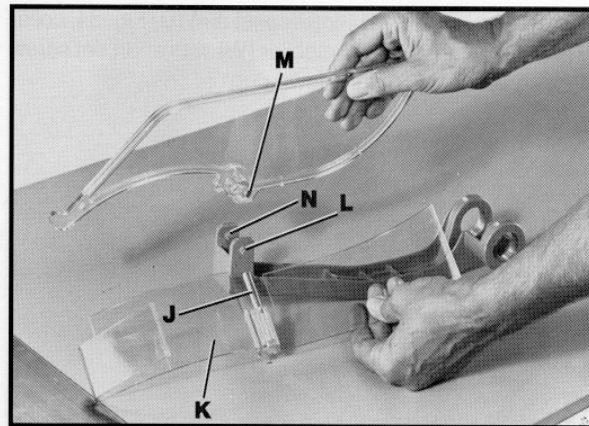

Fig. 30
17. Insert pin (J) Fig. 30, of top plastic shield (K) into hole (L) of basket arm, through hole (M) of plastic side shield and hole (N) of basket arm.